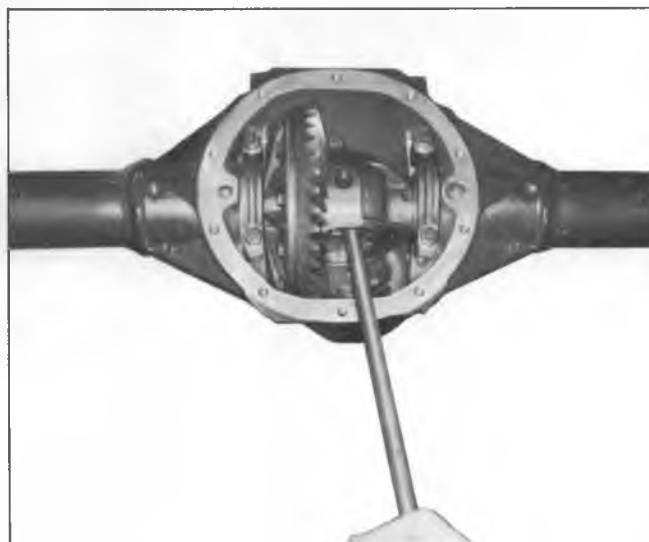

Fig. 1A Differential Case Removal
4. Differential case assembly can now be removed by prying against ring gear bolt using suitable prybar. Exercise caution in prying on carrier so that gasket sealing surface is not damaged. If the bearings are preloaded, the case will suddenly fall free when it is pried past a certain point; therefore, make sure case is properly supported to prevent damage. The bearing caps may be loosely installed, as shown in Figure 1A to prevent case from falling.